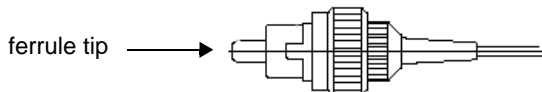

Figure 30 Cable connector assembly
- b Firmly press the tip of the ferrule (see Figure 30) into the damp area of the wipe.